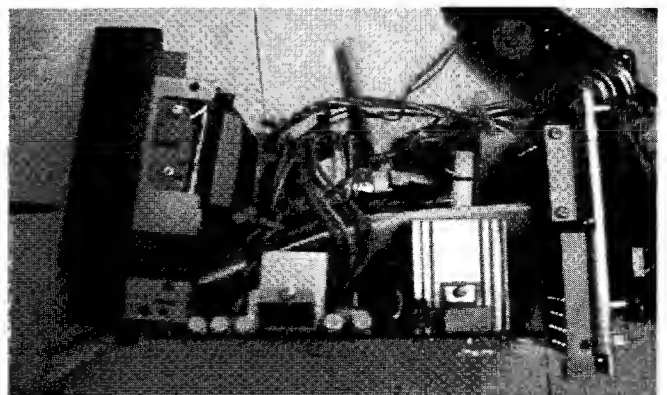

Fig.19
9. Insert paper as shown in Fig. 19 to avoid shorting.